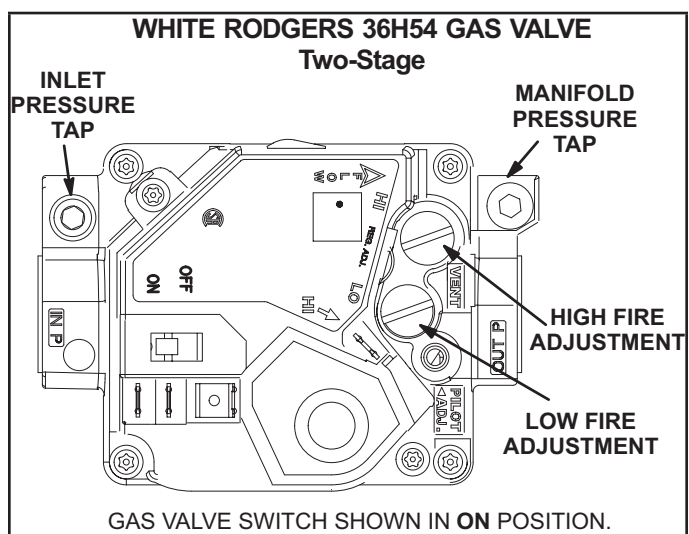

FIGURE 18
Gas Valve Operation for White Rodgers 36H54 (FIGURE 18)
- 5 - Turn gas valve switch to OFF. See FIGURE 18. Do not force.
- 6 - Wait five (5) minutes to clear out any gas. If you then smell gas, STOP! Immediately call your gas supplier from a neighbor's phone. Follow the gas supplier's instructions. If you do not smell gas, go to the next step.
- 7 - Turn gas valve switch to ON. See FIGURE 18. Do not force.